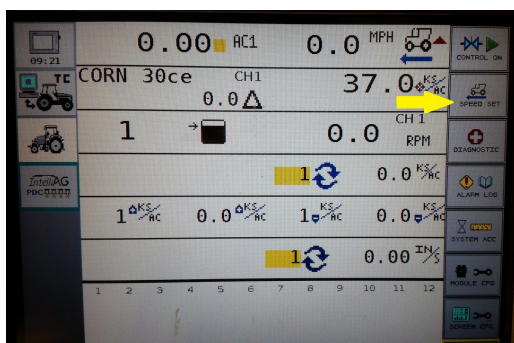

Figure 50
Step 3. Select **Speed Set**. (Figure 50)